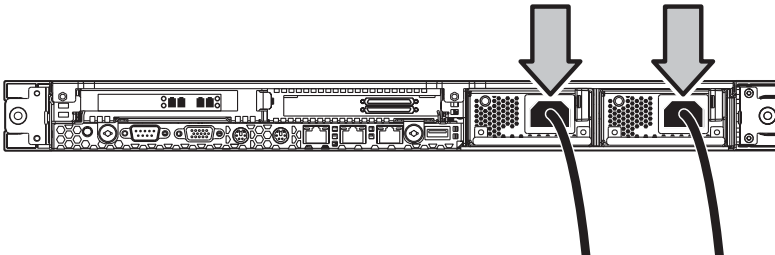

Figure 12 Connect the node power supply(s) to an AC power source
4. Connect the AC input socket of the node power supply(s) to an AC power source using the power cable(s) provided (Figure 12).